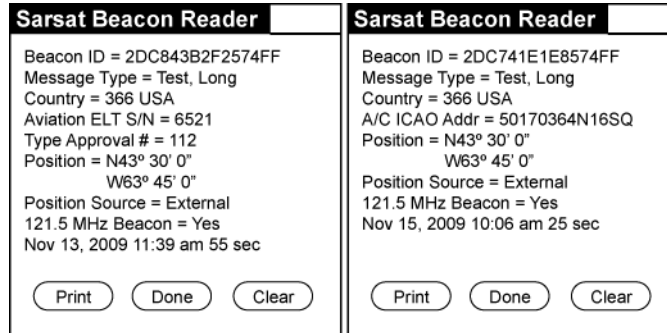

Figure 3 Examples of Location Protocol 406 MHz Messages
2) Message examples are shown in Figure 3 Examples of Location Protocol 406 MHz Messages.
- 3) The left hand example in Figure 3 Examples of Location Protocol 406 MHz Messages is an ELT programmed for “Standard Location Protocol ELT with Serial Number”. The right hand example is an ELT programmed for “Standard Location Protocol ELT with 24-bit Address”.